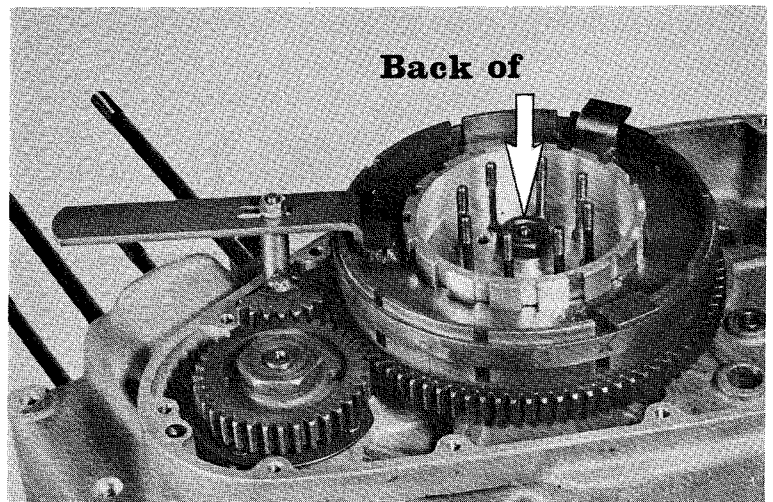

Fig. 4
4. Fit holding-up tool No. 15 19 261-01 to the clutch centre and lock the drive gear and clutch ring with the gear segment as shown in Fig. 4 and back off the clutch centre nut.